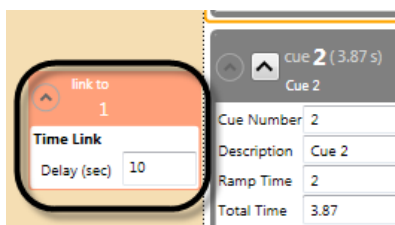

Figure 158
3. The new link is displayed in the left margin. You can edit the **Delay** value (Figure 158).